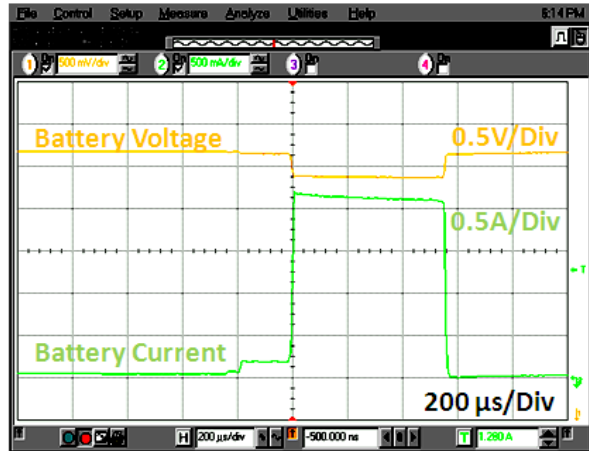
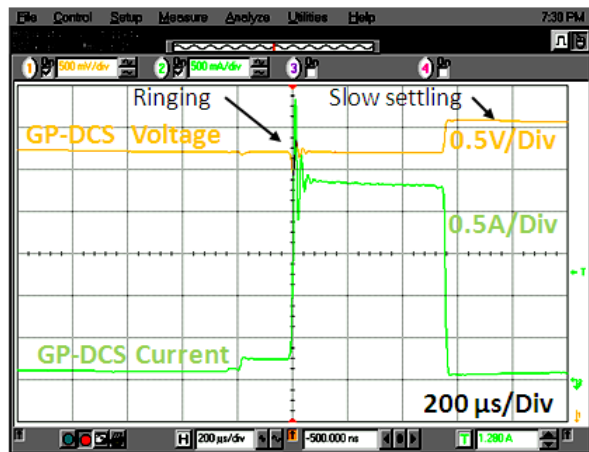
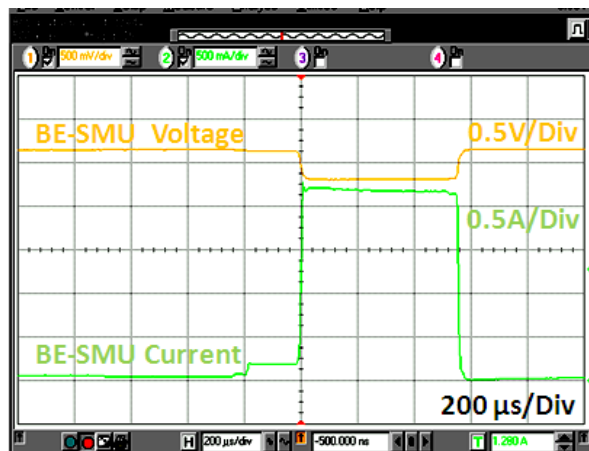

Figure 7. A device powered by a battery
Figure 8. General purpose DC source powering the same device
Figure 9. Keysight N6781A battery emulator SMU powering the same device
Figure 7 shows the pulsed current drain and voltage response on a battery-powered device. This shows that a battery has substantial series output impedance, causing its output voltage to drop proportionally to the device's current drain. Many devices adapt and adjust accordingly to compensate for the battery's characteristics. Specifically, the battery drops proportionally with current and the battery resistance is 150 mΩ.
A general purpose DC source strives to be an ideal voltage source with zero output impedance by using remote sensing feedback to keep its output voltage fixed. Unlike a battery, however, its voltage does not drop with load current. Also, feedback regulation has finite response time, which leads to voltage drop and overshoot during loading and unloading transitions. A substantially large transient voltage drop can even trigger a device's low battery voltage shutdown. Figure 8 shows the same measurements made in Figure 7 using a general purpose DC source instead of the battery. The very different voltage response results in a current drain 10% higher than when using the battery.
- Figure 7. A device powered by a battery
- Figure 8. General purpose DC source powering the same device
Figure 9 shows the same measurements made in Figure 7 using a Keysight N6781A SMU with battery emulation capabilities, in place of the battery. The SMU's series output resistance was set to match the battery's 150 mΩ value. Both the voltage response and resultant current drain were comparable to those of the battery.